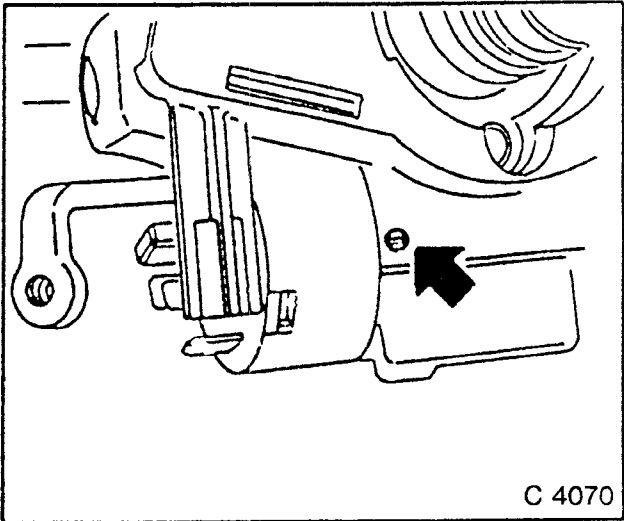

Fig. 72
- 1. Contact part. (Fig. 72 shows steering wheel with height adjustment).